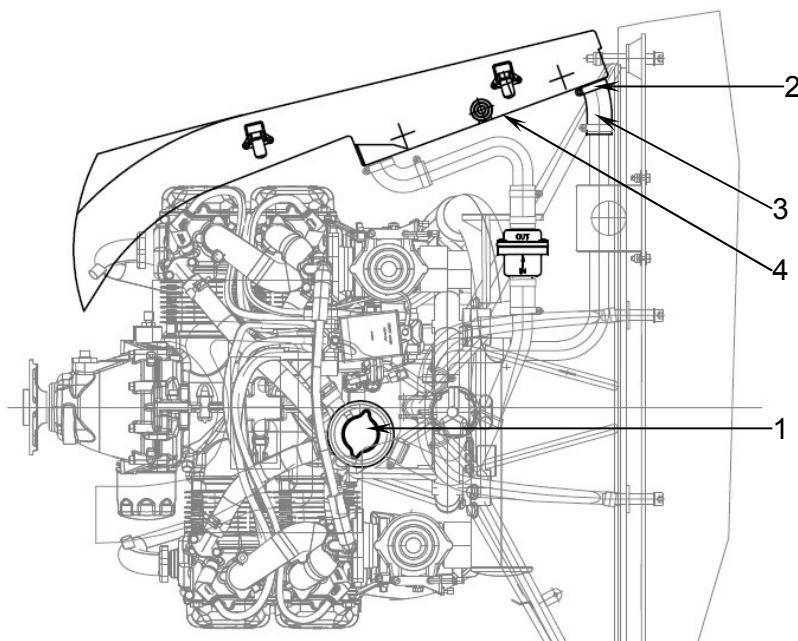

Figure 5 (Illustrative figure)
2. Drain the coolant (Figure 5).